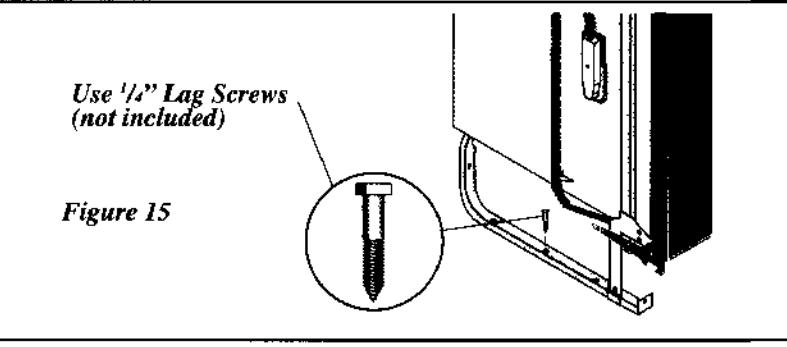

Figure 15
- Screw 1/4" lag screws, not included, through holes provided in frame rail. See Figure 15.